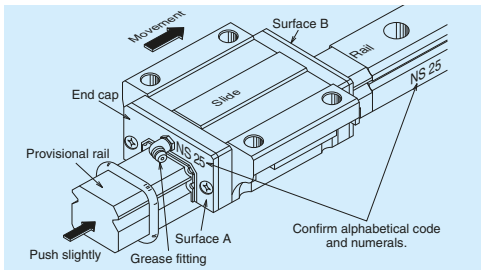

Fig. 10.23 Installing slide onto rail
- Interchangeable (also called "random-matching") linear guide slides come delivered on a provisional rail (installation tool) (**Fig. 10.23**).
- (1) Wipe off the rust preventive oil from the rail and slide.
- (2) Please match groove mark for the datum surface of slide and rail to set desired assembling state W_2 or W_3 .
- (3) Align the provisional rail to the rail bottom and side surfaces. Press the provisional rail lightly against the rail, and move the slide onto the rail (**Fig. 10.23**).